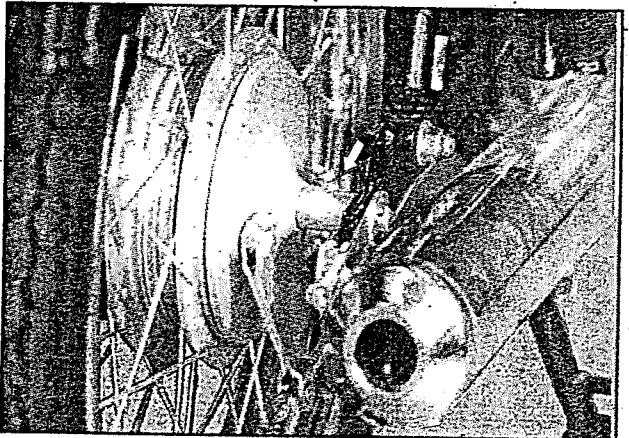

Fig 6.53
- Pull out the axle shaft (fig 6.53 & 6.54) and remove spacer.